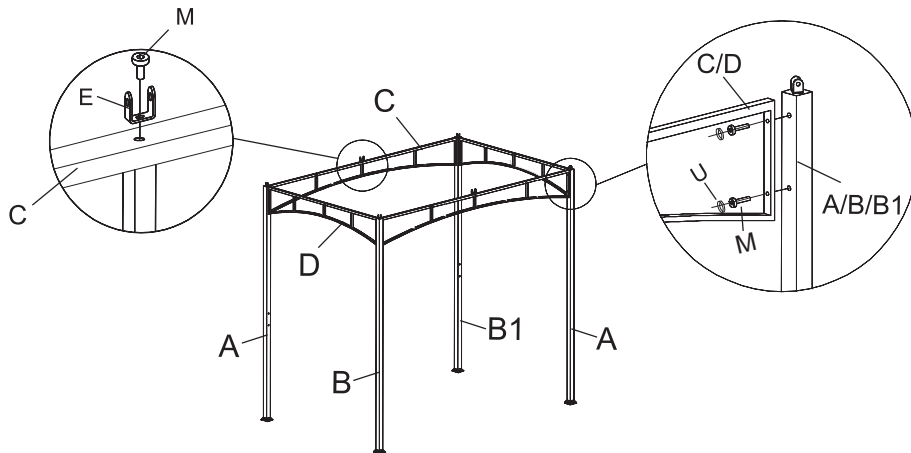

Figure 2
Attach Top Beams (C/D) to each of Pillars (A/B/B1) with Bolt (M) and Bolt Cap (U) as shown in Figure 2. Repeat this step with remaining Long and Short Beams (C/D) until all have been attached.